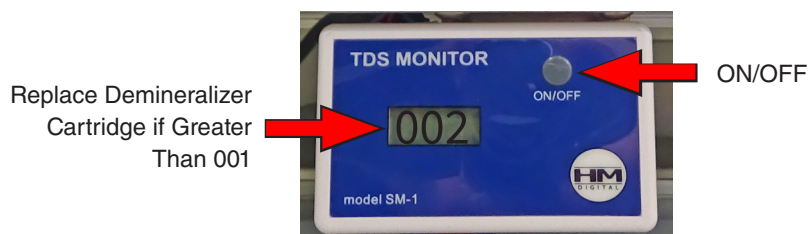

Figure 14.5d: Water purity meter reading.
- Press the ON/OFF button on the water purity meter to turn it ON (Figure 14.5d).